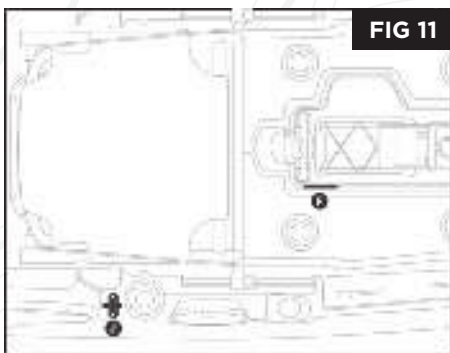

FIG 11
- There are two kill switches located on the BigWater ePDL+™ 132, one in the drive console (**F**) and one to the right of the seat (**J**). The ePDL+™ Drive will not power on until the battery is connected through the hull, the kill switch key is attached, and the drive is deployed (**fig 11**).